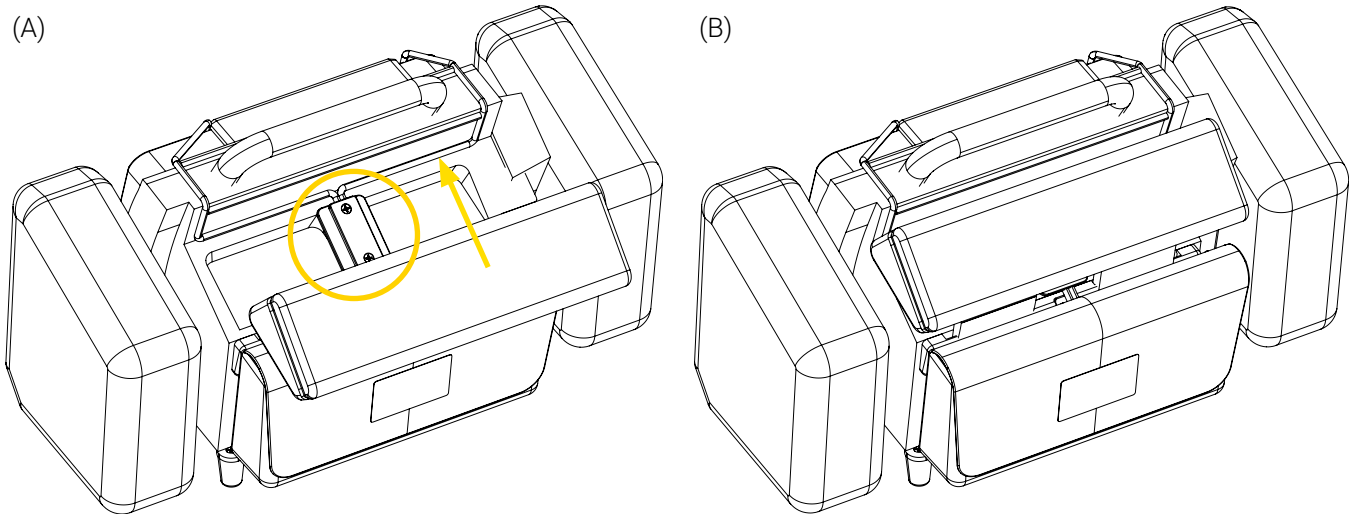

Figure 8: Top accessory bag installed
11. Slide the anchor of the top bag in the T-slot of the bracket until you hear the click sound of the attachment (Figure 8).